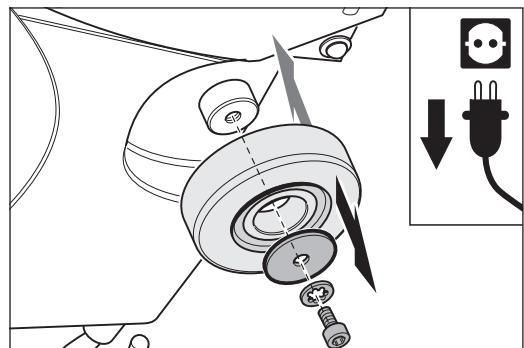

Fig. 58 Remove the screw with the washers in the centre of the wheel and remove the lateral wheel. Replace in reverse sequence. Similar to figure.
- 4 Release the screw in the centre of the lateral wheel and remove the screw and the washers (Fig. 58).**